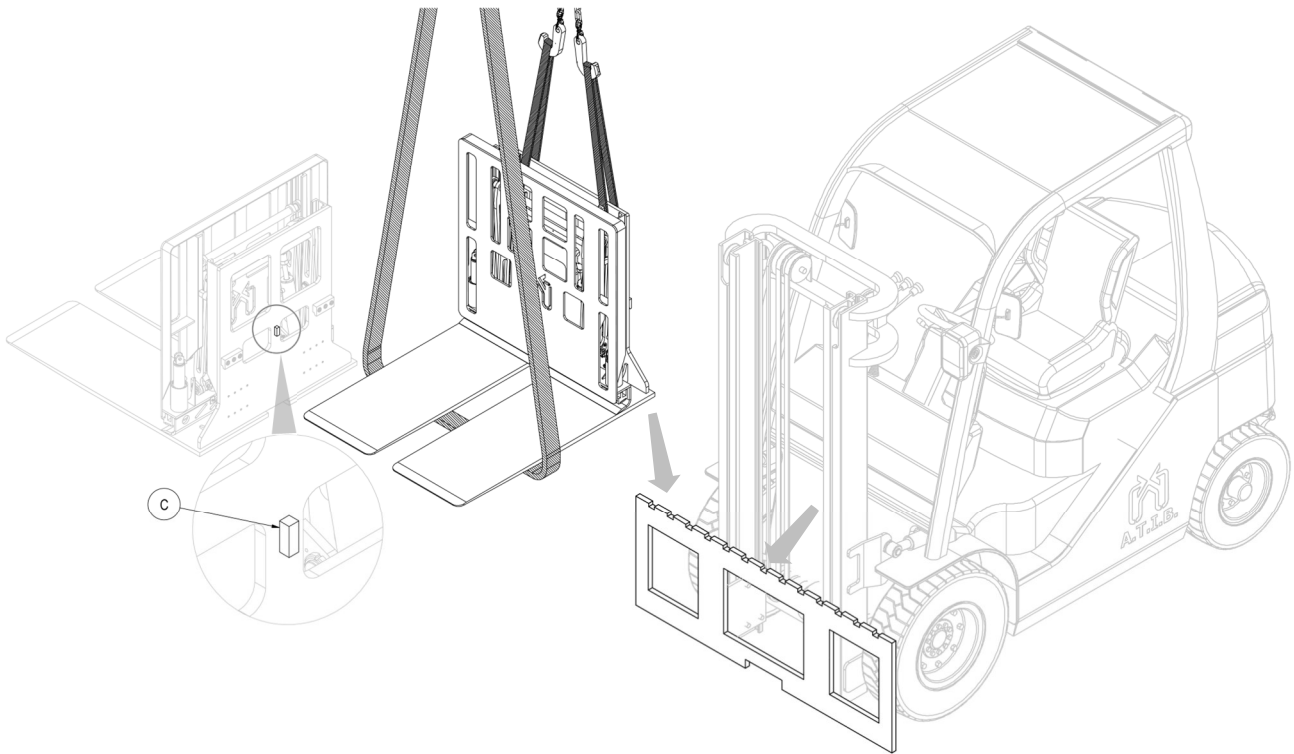

Figure 3
6. With an overhead crane or a hoist of sufficient capacity, place the equipment on the fork carriage plate, taking care to engage the centring pin **C** in its central notch (see *Figure 3*).